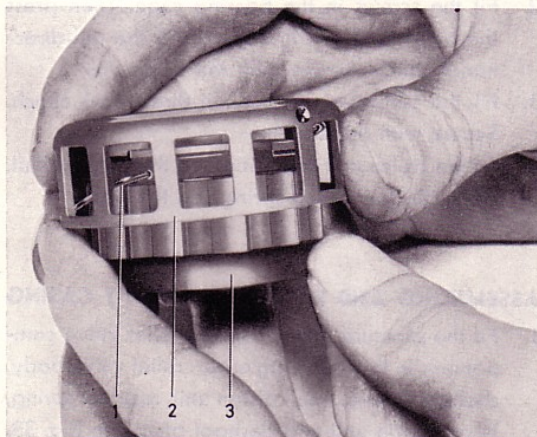

Fig. 27. Assembling the uni-directional clutch, I
5. Assemble the uni-directional clutch, spring and roller cage, see Fig. 27. Turn the roller cage